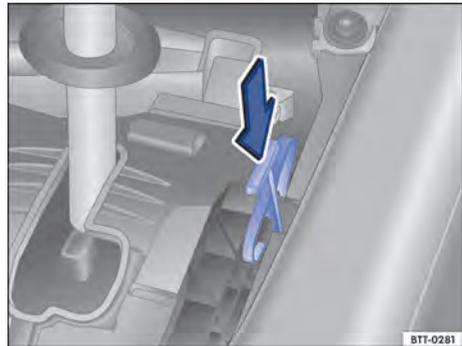

Fig. 107 Releasing the selector lever lock manually.
1. Using the flat blade of the screwdriver from the vehicle toolkit, carefully push the release lever in the direction of the arrow → Fig. 107 and keep it in this position.